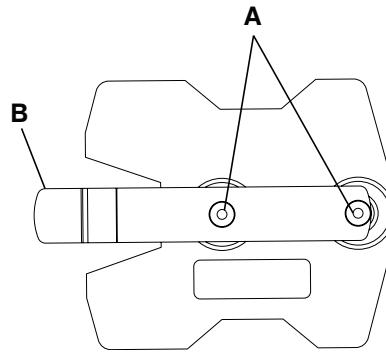

Figure 44 – Mounting bracket
To install the mounting bracket (Figure 44):
1. Use the SMRT charger mounting bracket as a template to mark the location of the mounting holes (A) at the area where you will install the mounting bracket.
- a. Spring tab (B) is located at the rear of the SMRT charger.
- Note** - When mounting the bracket to a vertical surface, the spring tab should be horizontal with the spring tab point to the left (Figure 44).